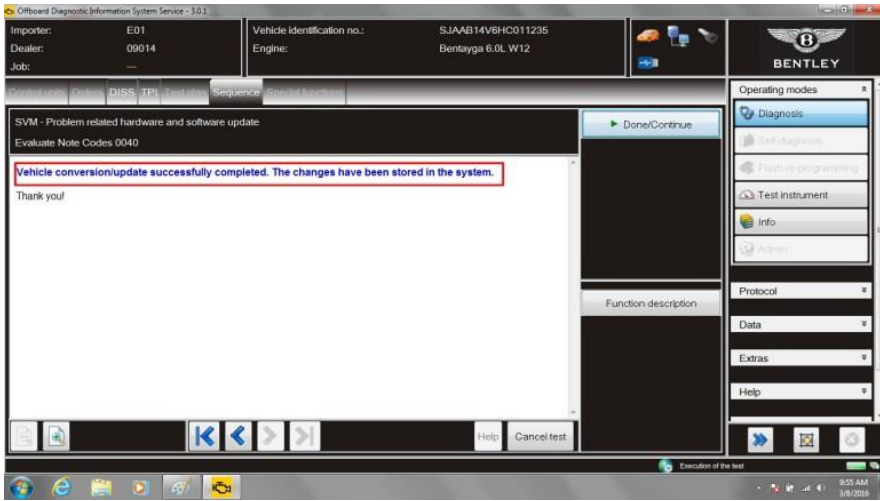

Figure 6
15. Once the update program has completed, figure 6, follow the screen prompts to performed the automatic SVM and complete the update